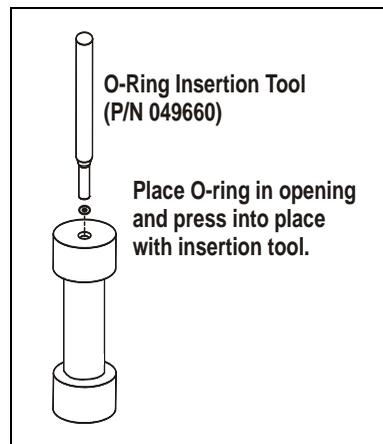

Figure 3-9. Installing a Cell End Cap O-Ring
- If an O-ring is missing, place a new O-ring over the opening in the end of the cell end cap. Press the O-ring into place, using the O-ring insertion tool (see Figure 3-9). For part numbers for O-rings, see Appendix D.
3. Place a new O-ring (P/N 049457, pkg. of 50 PTFE O-rings; P/N 056325, pkg. of 50 Viton O-rings) over the opening in the end of the cell end cap. Press the O-ring into place, using the O-ring insertion tool (see Figure 3-9).
3. Place a new O-ring (P/N 049457, pkg. of 50 PTFE O-rings; P/N 056325, pkg. of 50 Viton O-rings) over the opening in the end of the rinse tube. Press the O-ring into place, using the O-ring insertion tool (see Figure 3-9).